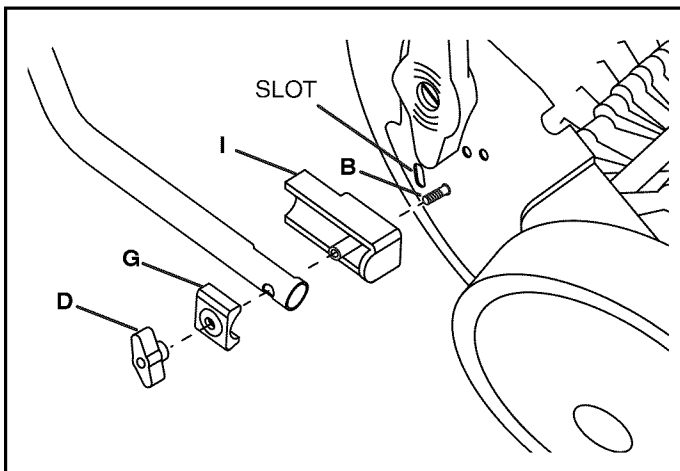

FIGURE 2
STEP 2: (SEE FIGURE 2)
- Fasten the lower handle tube to the left side of the Power Rake housing. Use the left handle bracket (I), carriage bolt (B), left handle clamp (G) and wing knob (D). Align the pin in the bracket with the slot in the housing and tighten the wing knob.